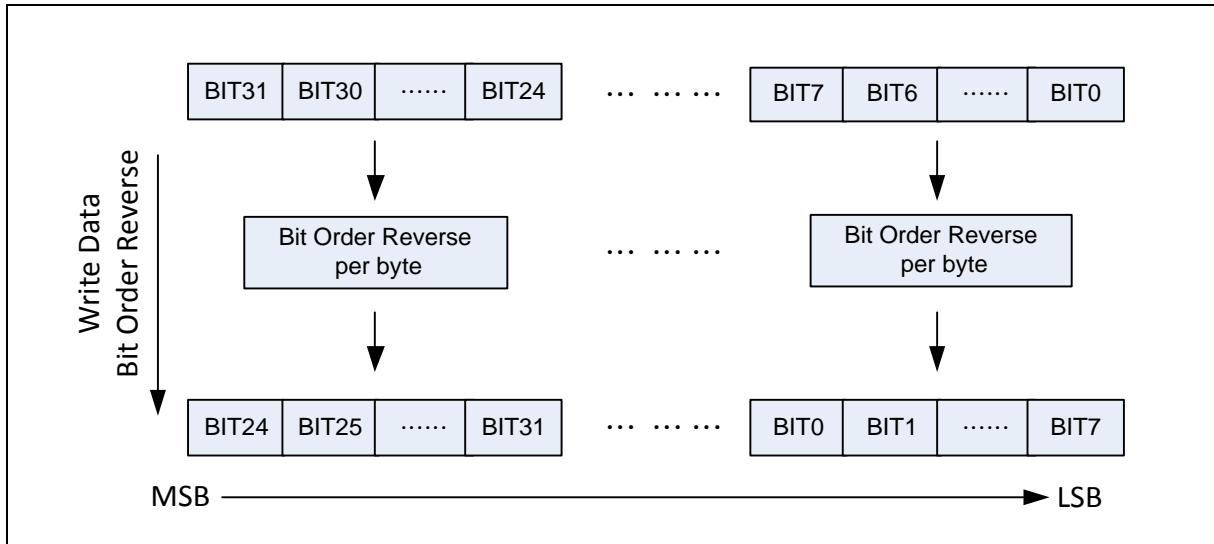

Figure 6.25-3 Write Data Bit Order Reverse Functional Block
- 4) Configure bit order reverse for CRC write data per byte by setting DATREV (CRC_CTL[24] Write Data Bit Order Reverse). The functional block is also shown in Figure 6.25-3.